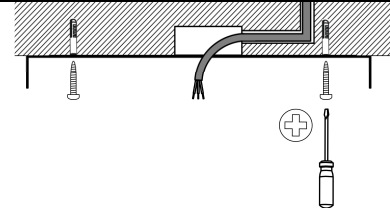

Fig.4 (SECTION)
4. Fix the Mounting Bracket by two Nuts of expansion bolts. (Fig.4)